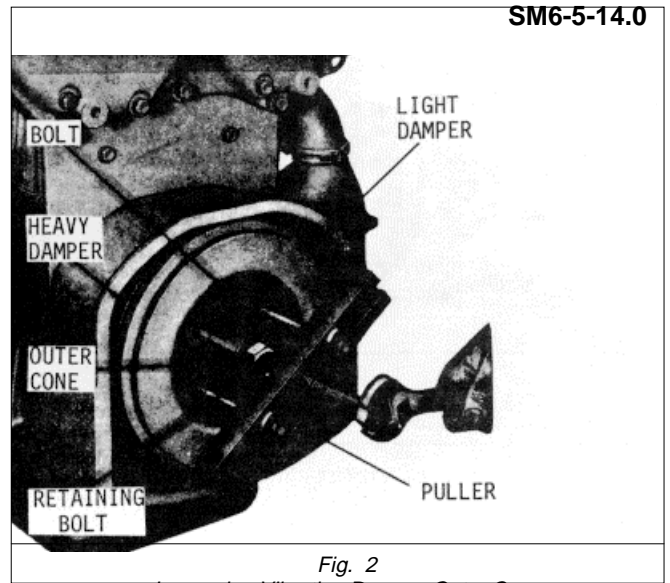

Fig. 2
- (3) Remove two damper-to-hub bolts and lock washers diametrically opposite to each other (Fig. 2). Two puller holes are provided in the bolt circle of the viscous damper.
- (4) Reinstall the pulley crankshaft bolt and install a puller as shown in Fig. 2 to loosen the outer cone wedged between the crankshaft and the damper hub. After loosening the cone, it may be "fished" from the inner diameter of the damper hub with two thin shank screwdrivers.
- (5) Slide the vibration dampers and damper hub as an assembly off the end of the crankshaft by hand.
- (6) Slide the inner cone from the crankshaft.